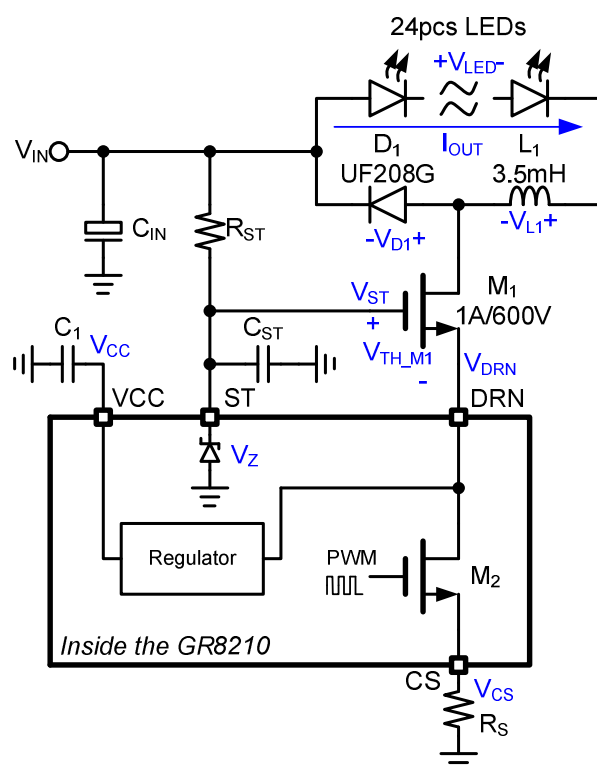
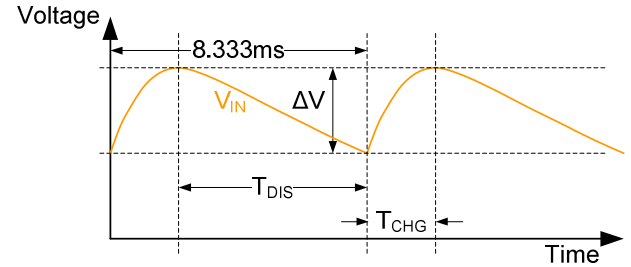

Figure-1 The brief schematic to explain the system operation.
Figure-6 The waveform of input voltage in the C_{IN} .
* Refer to the Figure-1.
GR8210 is a cascade topology constant current PWM converter for high brightness LED driving. In the Figure-1, after the V_{IN} ramps up, the V_{ST} also ramps up to the target with a delay time. This voltage turns on the M_1 when its level greater than the V_{TH_M1} , then the V_{CC} was created. M_2 was turned on in the on period of the first cycle. The current flows through LEDs, L_1 , M_1 , M_2 , R_S , and back to C_{IN} finally. In the end of this period, the M_2 might be to turn off when the V_{CS} reached 0.25V. A fixed off time was followed as the off period of the first cycle. During the off period, the current flows through LEDs, L_1 and D_1 . A new cycle will start when the fixed off time finish.
An internal regulator in the GR8210 could generate a 5V voltage source to supply the operating current for control circuit. The input voltage of the internal regulator is the V_{DRN} . V_{CC} regulated in the M_2 off period due to the V_{DRN} is approximately zero volt in the M_2 on period. Therefore, a capacitor, shown in the Figure-1, located to the V_{CC} to hold on the V_{CC} during the M_2 on period is necessary. The ceramic type of capacitor is suitable for V_{CC} retaining, a $1\mu F$ capacitor could supply the operating current of the control circuit for tens microsecond with a very good voltage regulation.
The different height of V_{CS} means the different I_{OUT} that shown in the Figure-1. The line voltage compensation function was applied in the GR8210 to improve the output current regulation. The V_{P1} to V_{P3} in the Figure-4 illustrates the compensation results by the line voltage compensation.
In the Figure-1, the C_{IN} retained the V_{IN} with ac part, the waveform was shown as Figure-6. Before the input capacitance decision, the users must define the input voltage ripple in the system. A useful rule
The (5) to (7) could be used to estimate the capacitance of C_{IN} that shown in the Figure-1.
The external NMOSFET in the Figure-1, M_1 , was connected to the DRN of the GR8210. Most of the input voltage was across the drain and source terminals of M_1 . The specifications of a suitable device are, the continuous current range of 1A to 2A, the maximum drain to source voltage is 600V and the maximum gate to source voltage is 20V. To choose an external NMOSFET with better specifications than above will not improve the efficiency significantly.
The users could apply a digital duty modulation signal into DIM pin to use the PWM dimming. The I_{OUT} , shown in the Figure-1, would regulate in the high state of PWM signal and stop regulating in the low state of PWM signal.